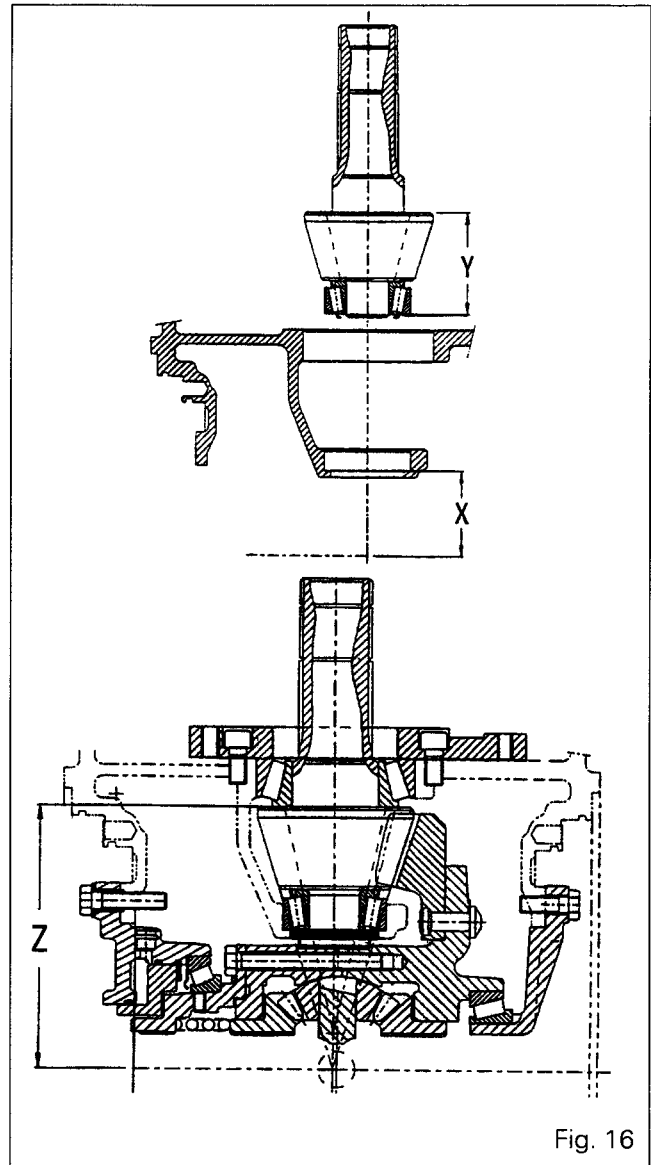

Fig. 16
76. Smear the oil deflector (41) with Loctite 648 and position it in the bore in the housing (Fig. 16).
**Note: The oil deflector (41) must be fitted so that it is flush with face F. Position the hole T so that the lubricating pipe can be assembled (if fitted).**
77. For 6190 tractors only, determine the required thickness **E** of shims **[42]** (Fig. 16) by means of the following formula: